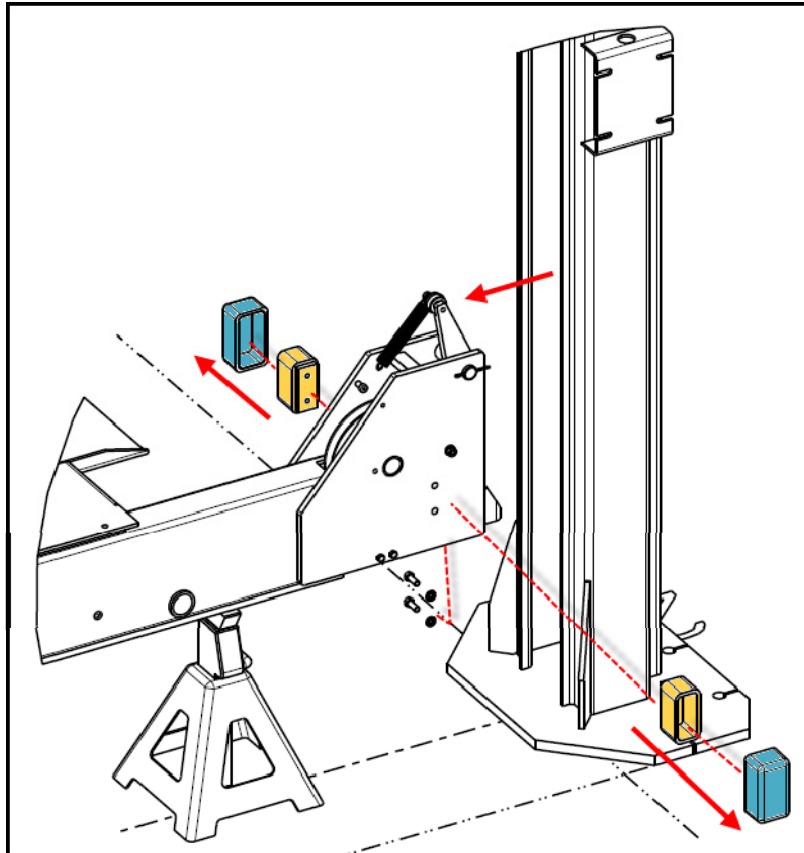

Figure 16. Tower Installation
1. Remove the slider block weldments from both crossmembers by removing the 3/8"-16UNC x 1"LG Hex HD Bolts and 3/8" lock washers attaching them to the crossmember. See **Figure 16**.